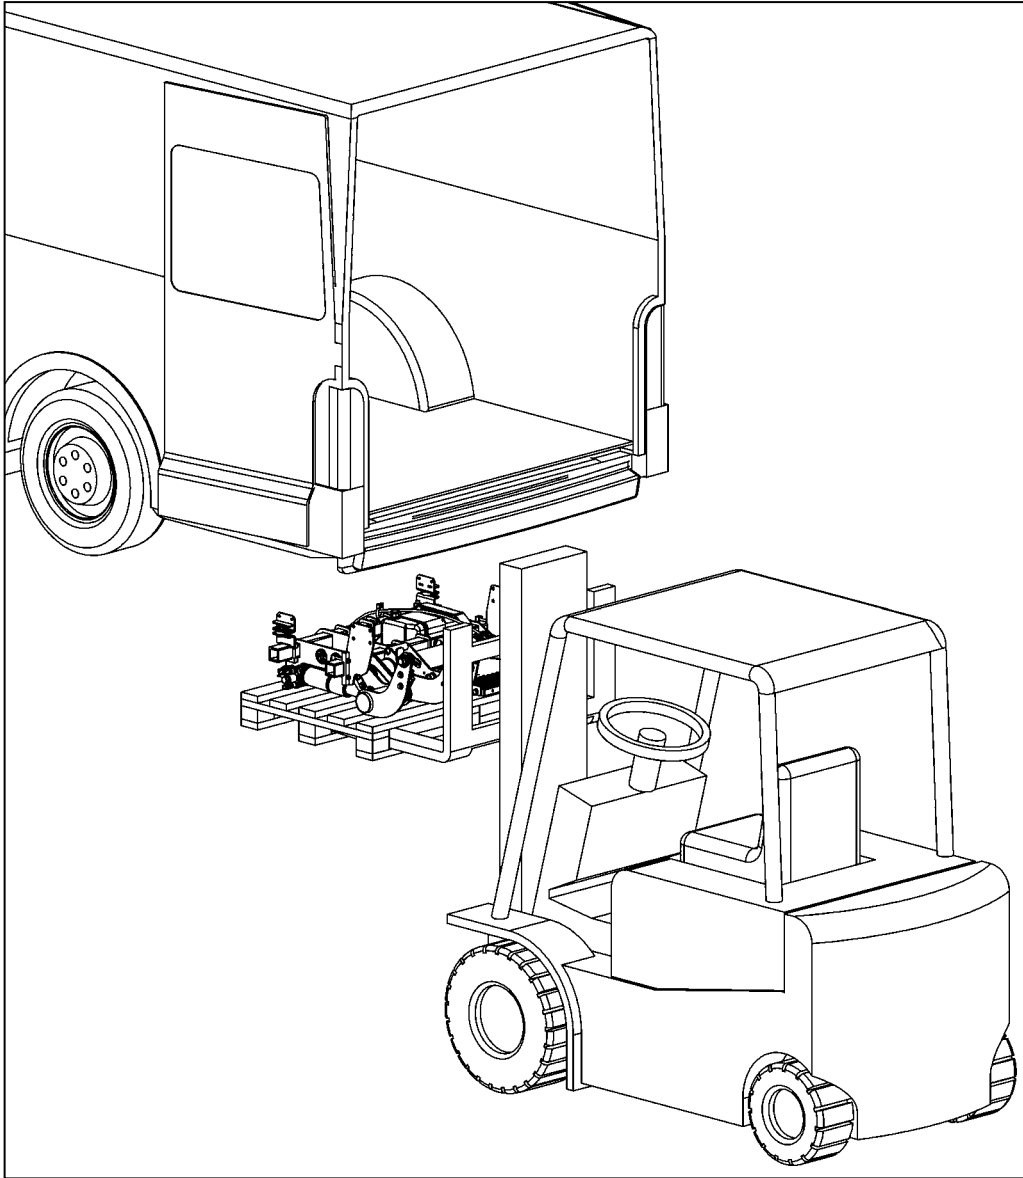

Figure 29
- Place the prepared lifting gear (on a pallet) under the vehicle using a suitable means of transport, e.g. pallet truck, forklift, etc. (see Fig. 29).